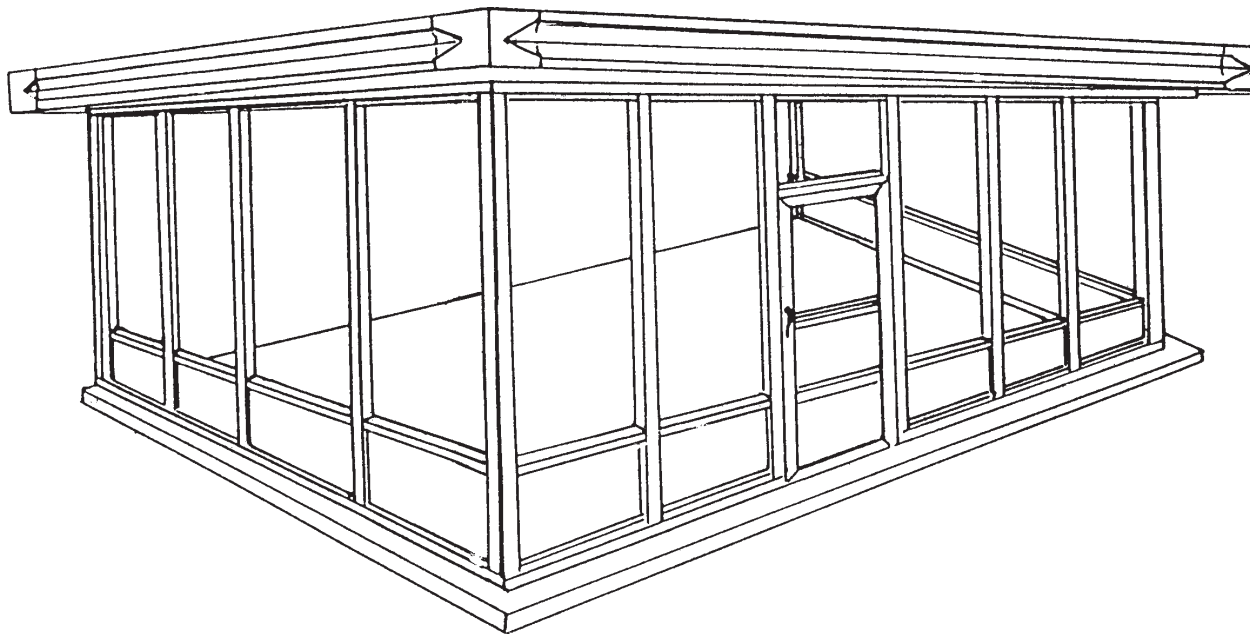

Figure 5
**STEP 5: INSTALL KICKPLATE RAIL (Figure 5)**